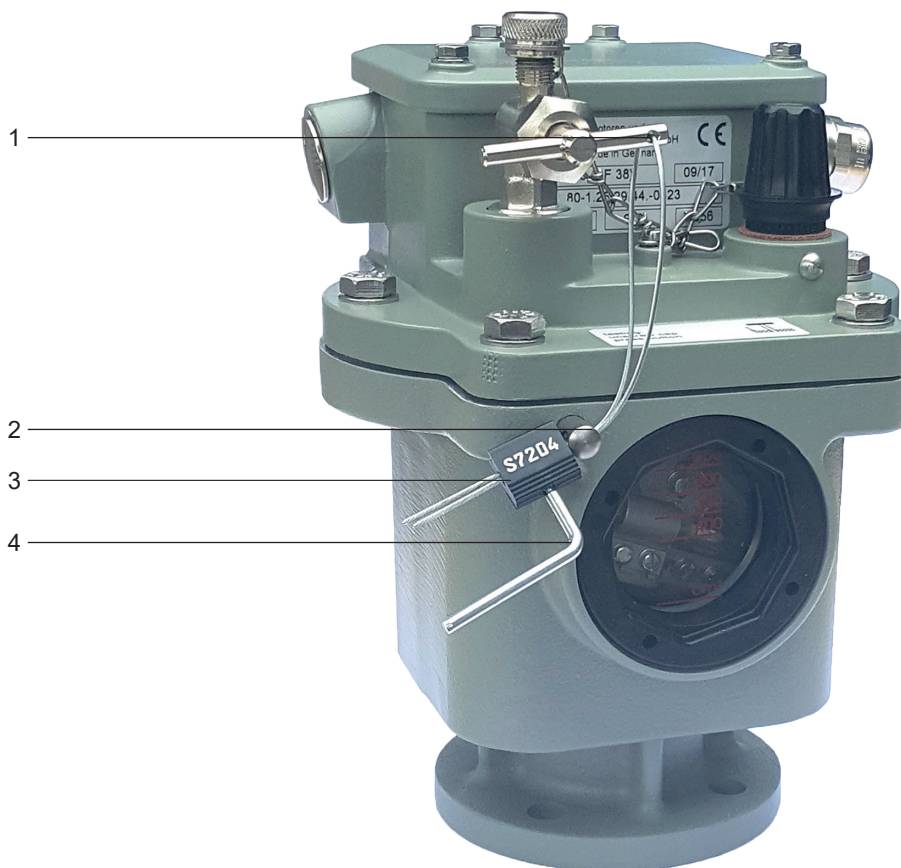

Fig. 17 – Gas relay with seal
- Insert the safety cable as shown in Fig. 17 through the holes in the valve handle (Fig. 17/ no. 1) and the casing (Fig. 17/ no. 2).
- Then pull tight both ends of the cable through the seal body (Fig. 17/ no. 3).
- Tighten the locking screw of the seal using the attached tool (Fig. 17/ no. 4) to secure the tight cable.
The gas relay with safety lock – as shown in Fig. 17 – is delivered without hinged lids for sightglasses.